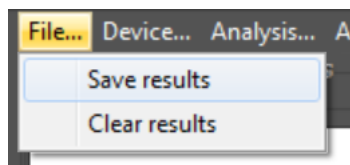

Figure A.4. “File...” Menu
5.3.1 The “File ...” menu is used for saving or clearing measurement results and consists of two parts (see Figure A.4):